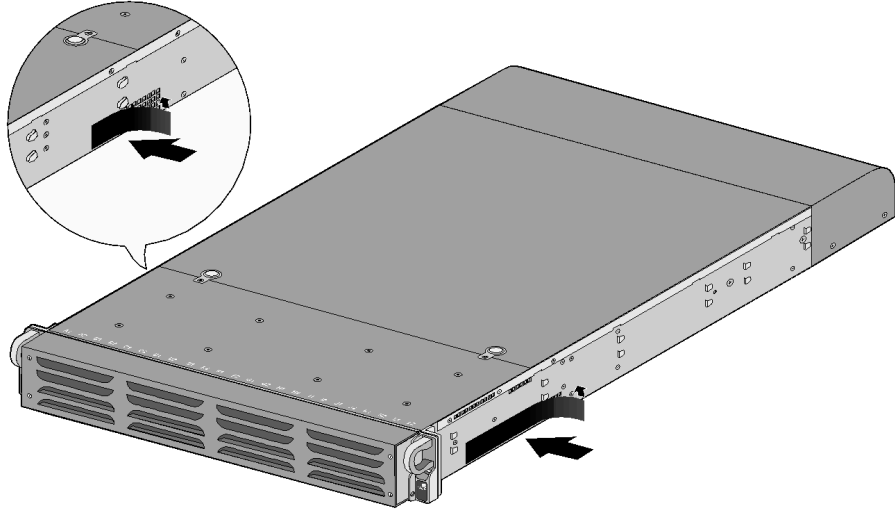
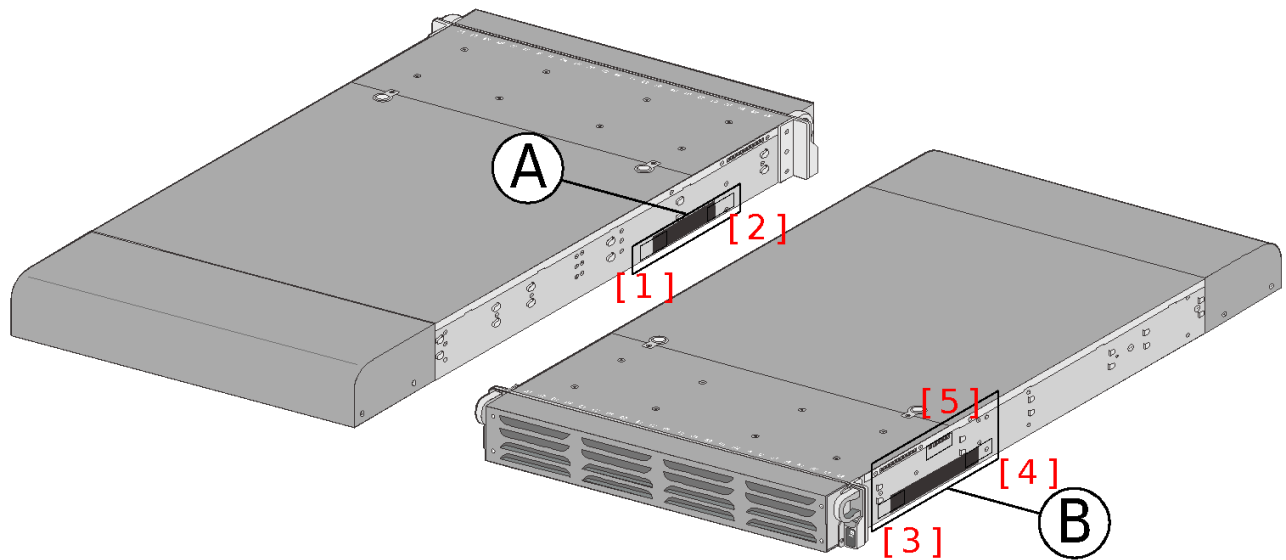

Figure 21 – M-500: Apply Vent Overlays
Figure 22 – M-500: Apply Tamper Seals on Vent Overlays and Side Opening
Cover the vent openings as shown in Figure 21 by applying one (1) overlay sticker over the left side vent and one (1) overlay sticker over the right side vent. Each overlay requires two (2) tamper seals as shown in Figure 46 (A). Also apply one (1) additional tamper seal as shown in Figure 22 (B) #5.